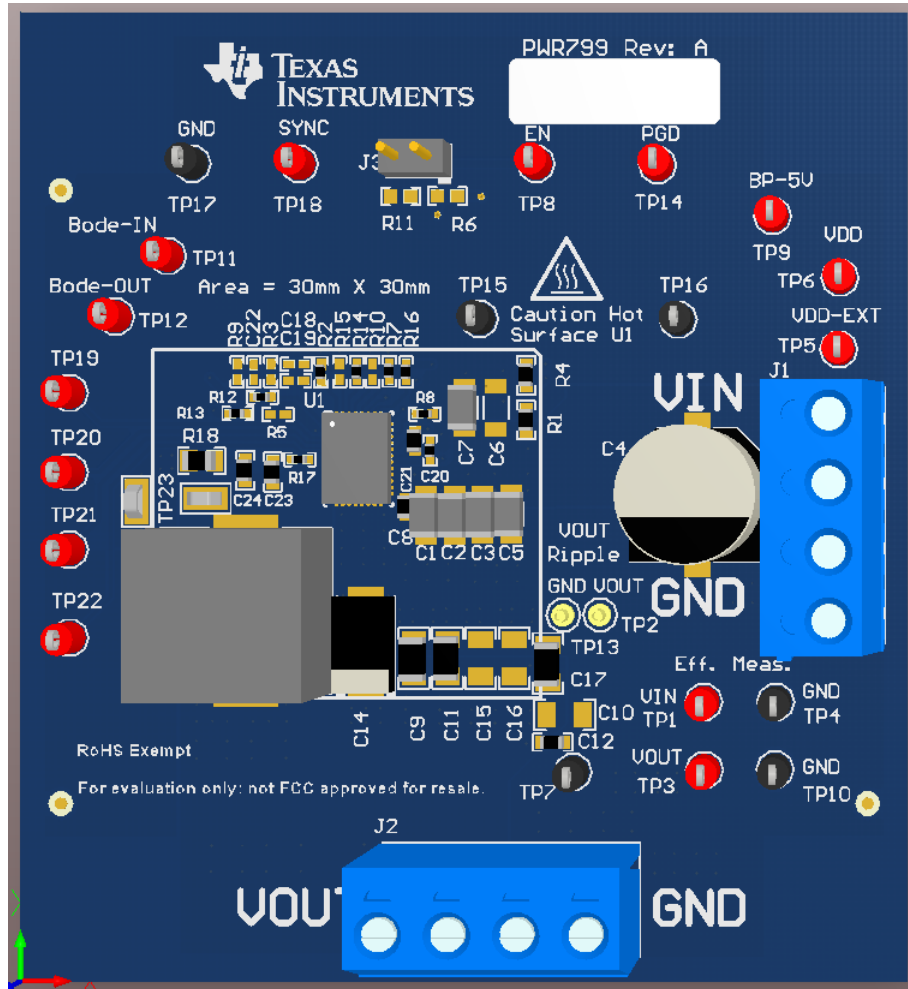

Figure 2. PWR799EVM Overview
**Multimeters:** It is recommended to use two separate multimeters Figure 2. One meter is used to measure  $V_{IN}$  and one to measure  $V_{OUT}$ .
**Output Load:** A variable electronic load is recommended for testing Figure 2. It must be capable of 40 A at voltages as low as 0.6 V.
1. Connect VOUT to J2 and VOUT\_GND to J2 Figure 2.
4. Connect VIN to J1 and VIN\_GND to J1 Figure 2.